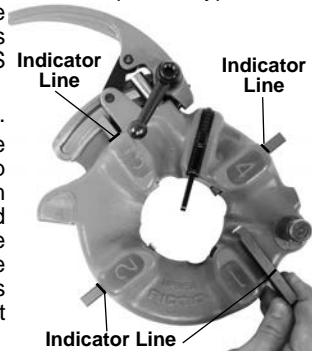

Figure 3 - Inserting Dies
6. Insert appropriate dies into the die head, numbered edge up until the indicator line is flush with the edge of the diehead (see Figure 3). Numbers on the dies must correspond with those on the die head slots. Always change dies as sets - do not mix dies from different sets.